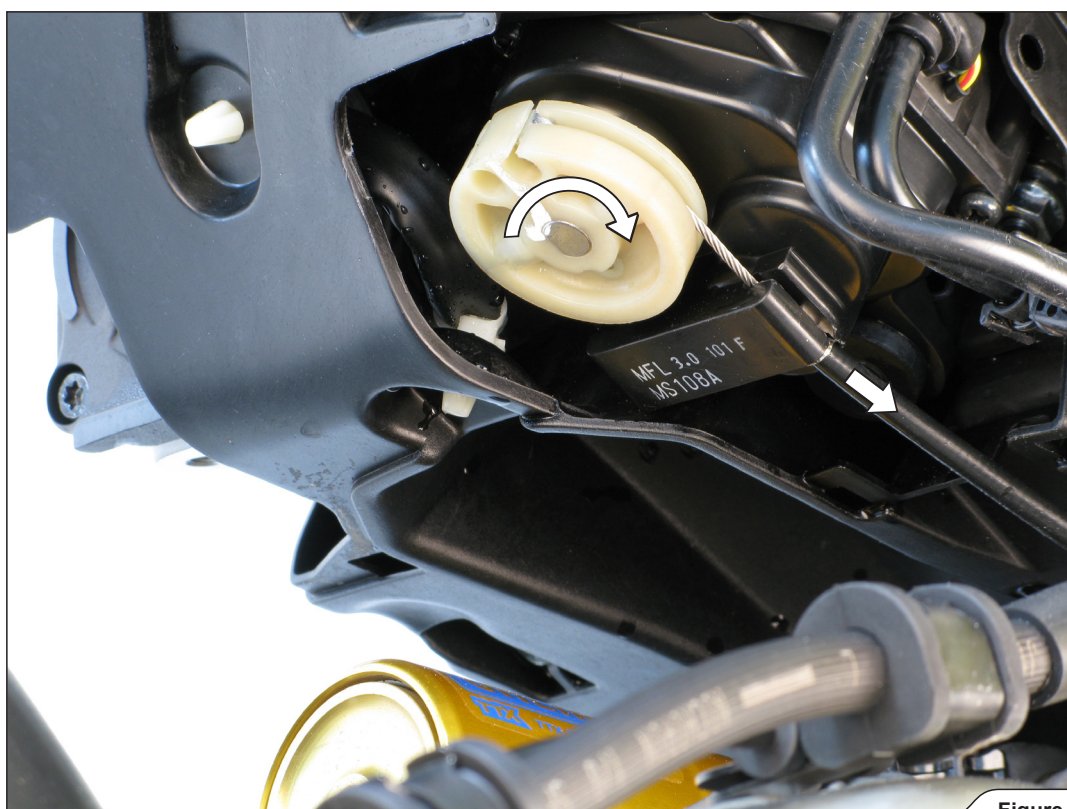

Figure 2
3. Slightly rotate the servo motor in the marked direction and remove the cable off the servo motor (Figure 2).